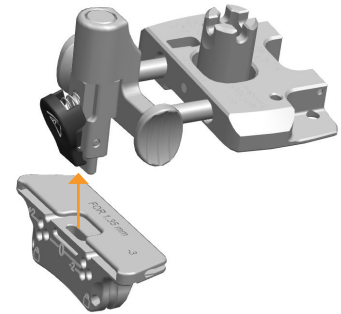

Figure 68
2. Attach the Distal Femoral Cutting block onto the Fixed Valgus Bridge (Figure 68).